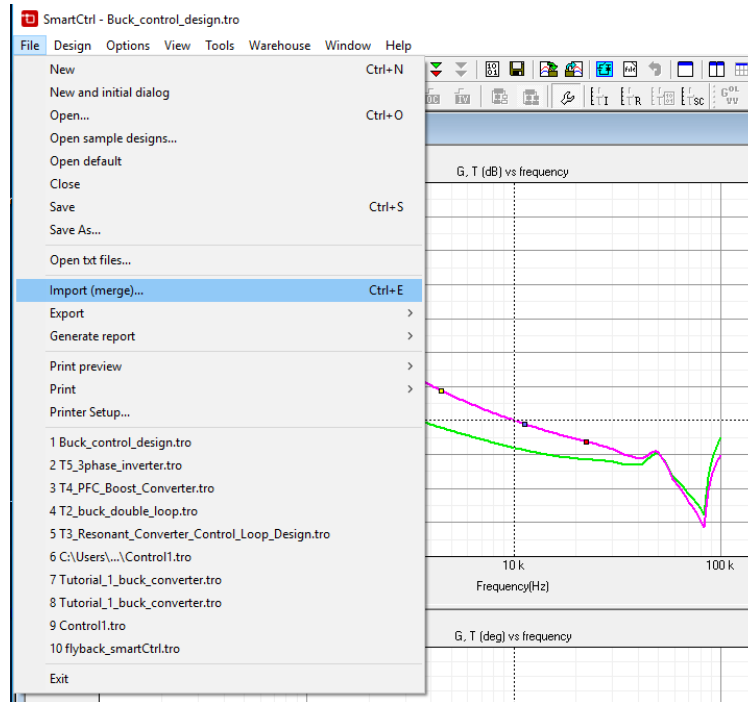

Figure 21: merge an external transfer function in SmartCtrl
4. In SmartCtrl merge the new transfer function with File -> merge. See Figure 21.